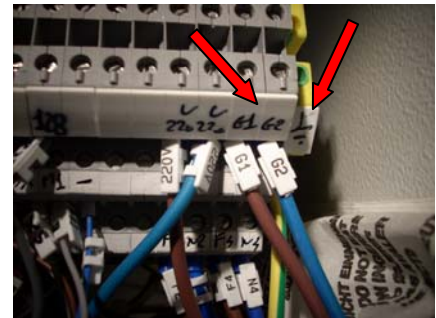

Fig. 6.5
- Check the output voltage from the generator on board. While the thermal engine is running, activate the generator using the selector on the control panel in the cage. Open the main command panel (fig 3.2) and measure the voltage between the binding clamps G1 and G2 (fig 6.5). The voltage must be $200V \pm 10\%$. If the voltage is higher or lower, set the number of rounds of the thermal engine